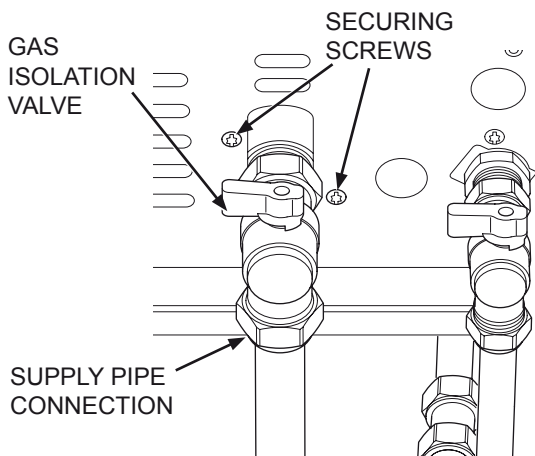

Figure 19.14
- Remove the gas valve's two securing screws and washers from the underside of the boiler. (Figure 19.14).